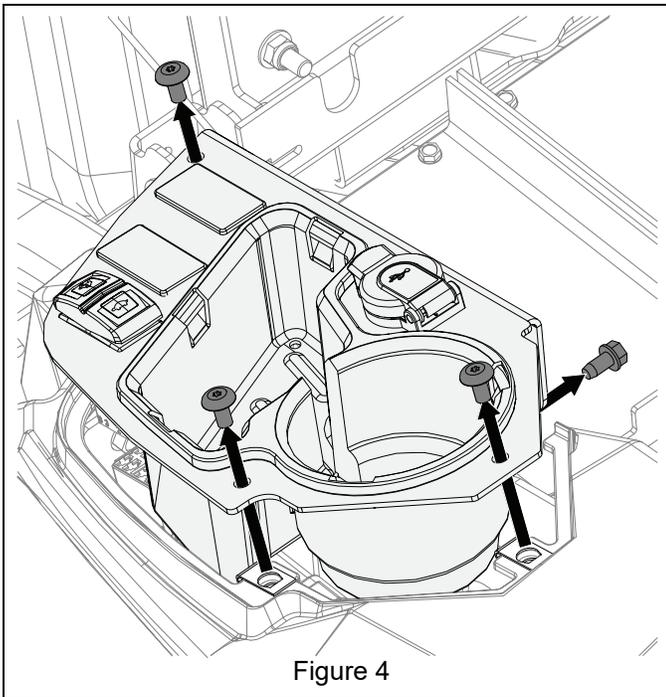

Figure 4
7. Remove and retain fasteners retaining left control panel. Disconnect speed selector switch and USB port connectors and remove control panel. See Figure 4.